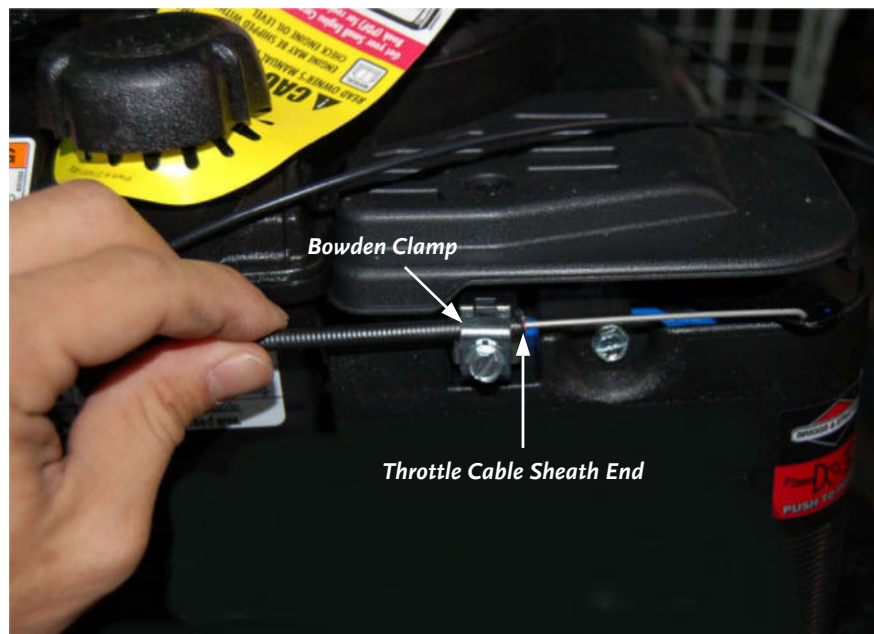

Figure 24
1. Using a 5/16" Socket or Nut Driver, loosen the Bowden Clamp holding the Throttle Cable Sheath to the Engine (**Figure 24**).
2. Pull the Throttle Control Lever up and all the way back to the STOP position. Note the location of the End of the Throttle Cable Sheath (**Figure 24**).